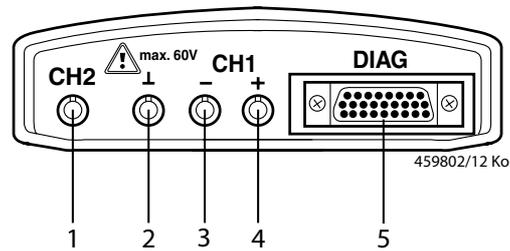

Fig. 1: Diagnosis terminals/Measurement terminals
- If no diagnosis cable is connected, a ground connection is to be made from the KTS modules before making any V-, R- or I-measurements (Fig. 1, Item 2) made connection to vehicle ground with the ground cable provided!